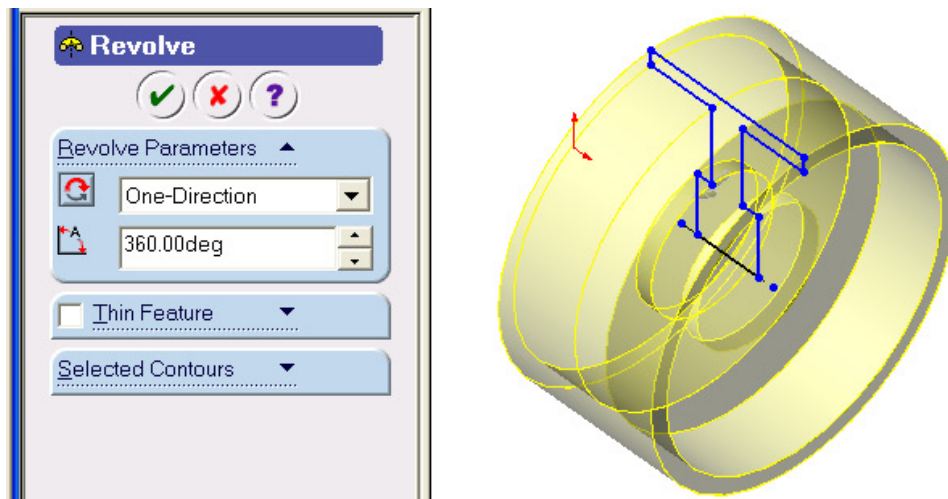

Figure 12 Base- Revolved PropertyManager.
17. Select **Revolved Boss/Base**  on the Feature toolbar. The Base-Revolved PropertyManager appears as shown in Figure 12. The **One-Direction** is the default type of the revolved feature. The **Angle**  box is filled with **360 deg** automatically.